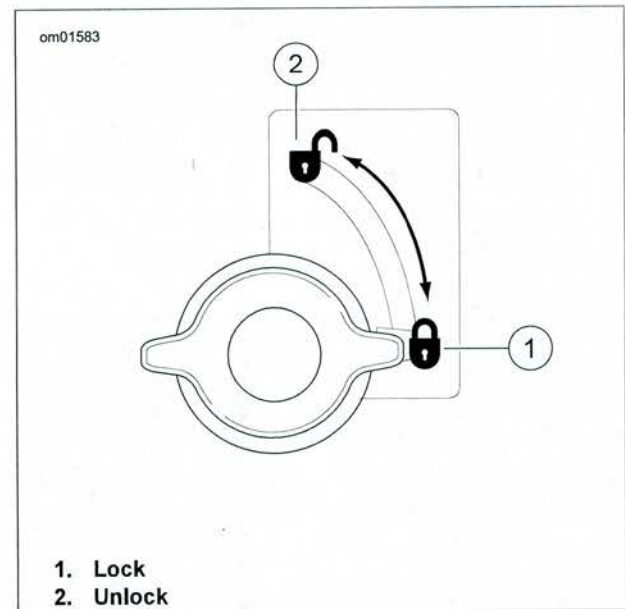
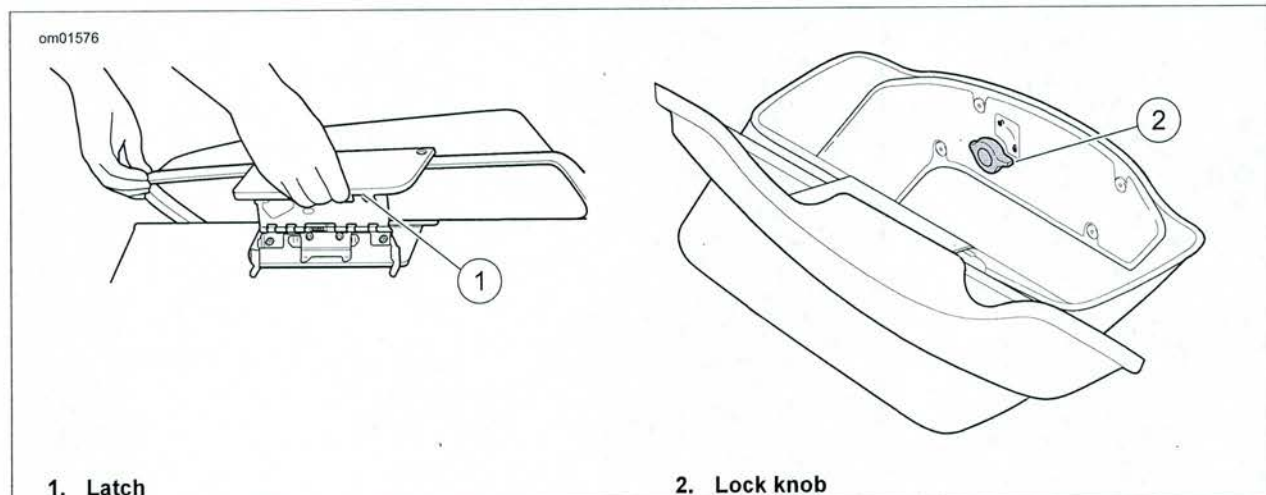

Figure 2. Saddlebag Lock Knob: FLD Model
Figure 3. Saddlebag: FLD Model
1. See Figure 2 and Figure 3. Inside the saddlebag, pull the knob and rotate to the UNLOCK position.
2. See Figure 2. Pull the knob and rotate to the LOCK position until the knob snaps into place.